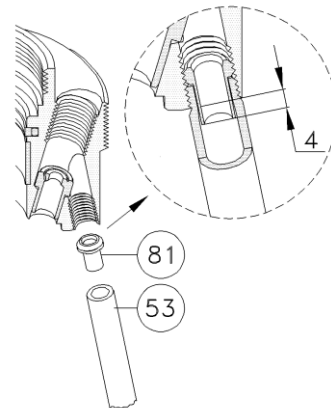

Figure 6-22; Fitting plastic return tubes (old type)
Older versions are provided with return tubes. In this case each outlet of the guide is fitted with a plastic return tube (53). These tubes have been screwed into the guide by means of a nipple (81) (Figure 6-22).